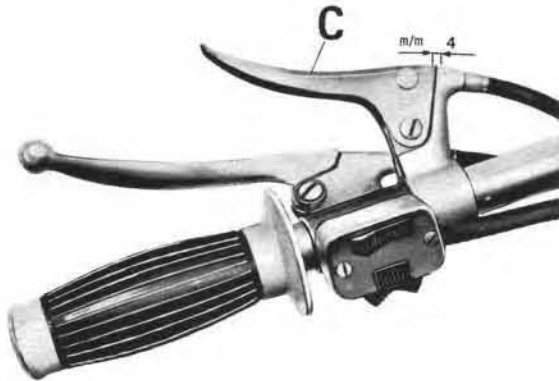

Fig. 147
**Adjustment of syren control lever (A-B-C in fig. 147)**